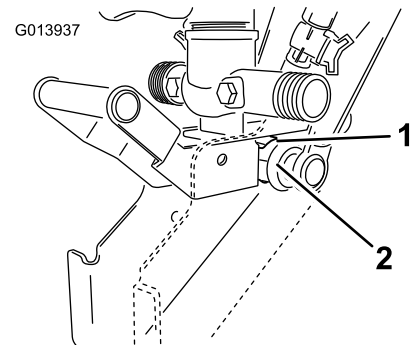

Figure 19
- Push until the clamp snaps over the pivot housing as shown in Figure 19.